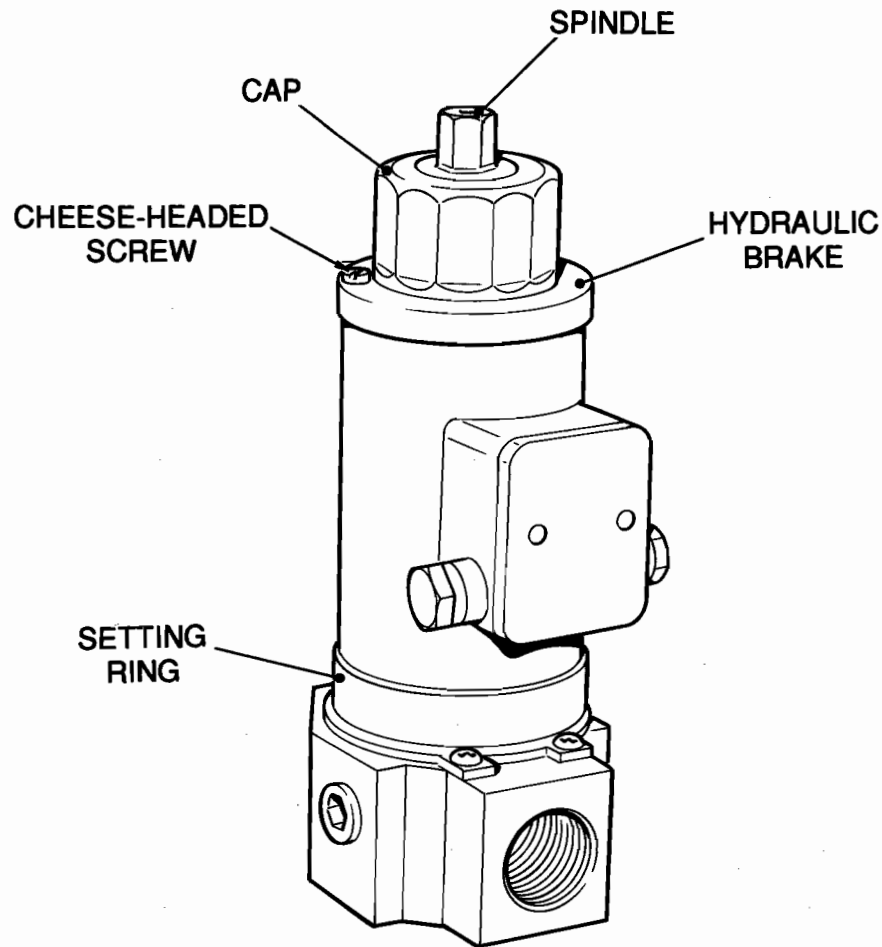

FIG. 9 TWO-STAGE SOLENOID VALVE
3.6 Setting the Burner for Low Fire/High Fire, Models 50E and 60E (Fig. 9)
The correct settings for low fire/high fire operation are obtained by making adjustments to (1) The two stage solenoid valve (Fig. 9) and (2) The low fire steam pressure switch. Proceed as follows:
- (1) Set the gas input to the boiler for correct input on high fire. This should be done where possible by using the gas meter. Adjust the main air gate and top damper adjustment to obtain optimum combustion conditions.
- (2) Adjust the low fire steam pressure switch to cut out at approximately 15 psi below the setting of the main steam pressure control (See Section 2.12 (12)).
- (3) Adjust the two-stage solenoid valve (Fig. 9) to obtain a low fire gas input of approximately 80% of high fire. Leave the air gate adjustments as for high fire.
- (4) Refer to the adjusting procedure on the two-stage solenoid valve (Fig. 9) for securing.